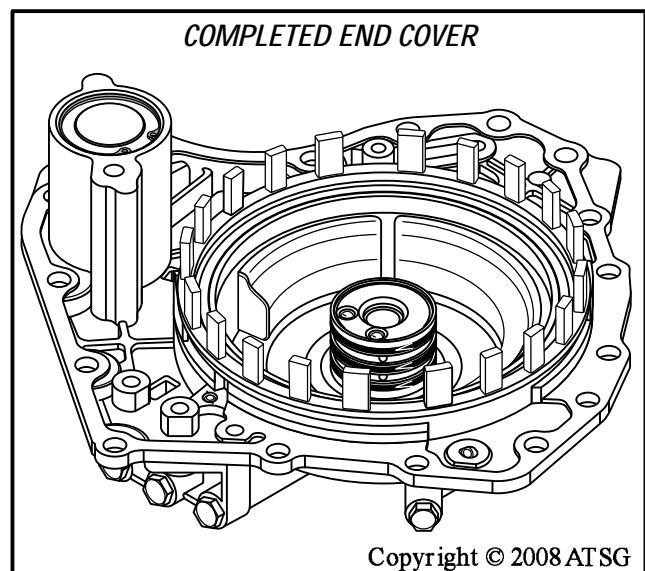

Figure 101
14. Set the completed end cover aside for the final assembly process (See Figure 101).